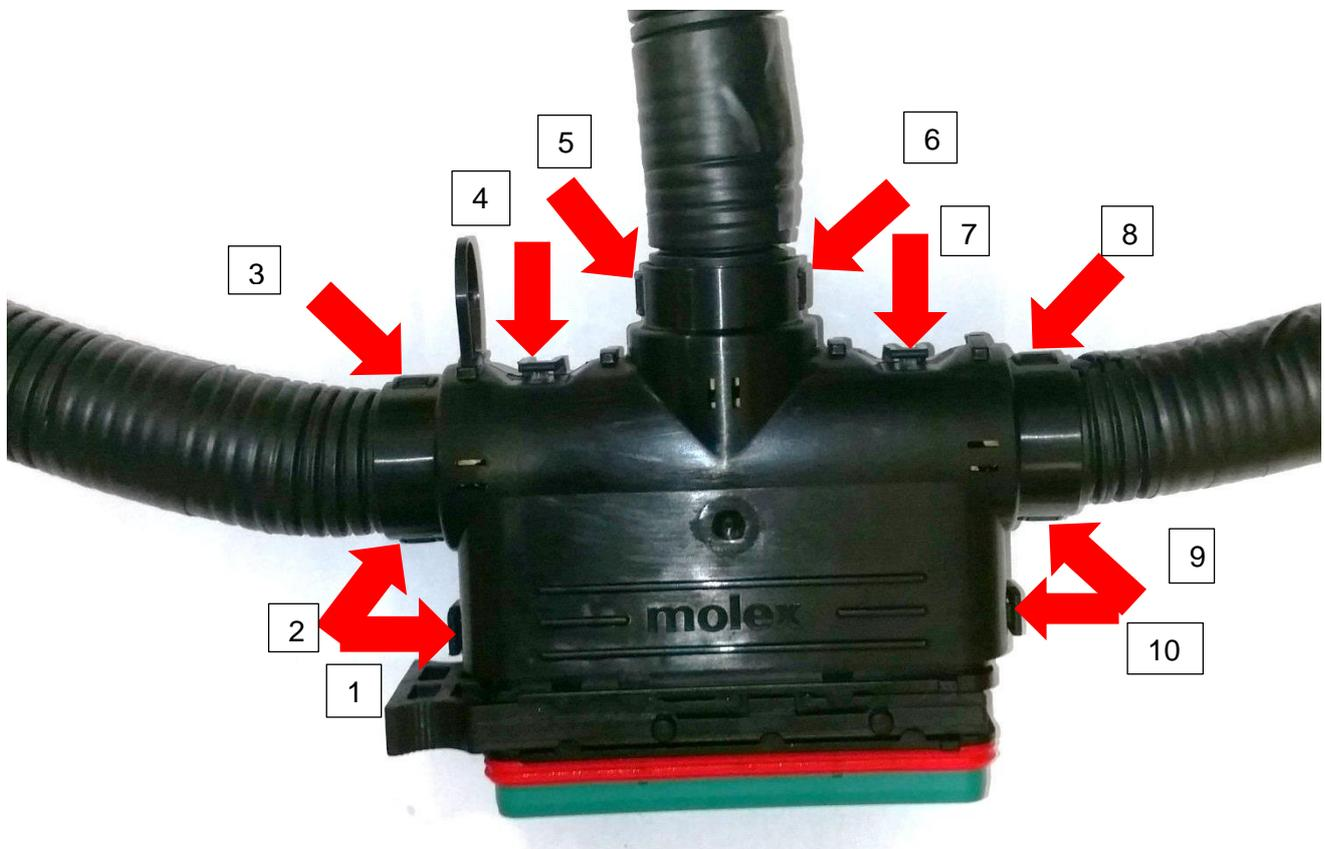

Figure 4.37: Latch Disengage Sequence
- Recommended latch disengage sequence shown in Figure 4.37. **Note: this sequence is reversible**